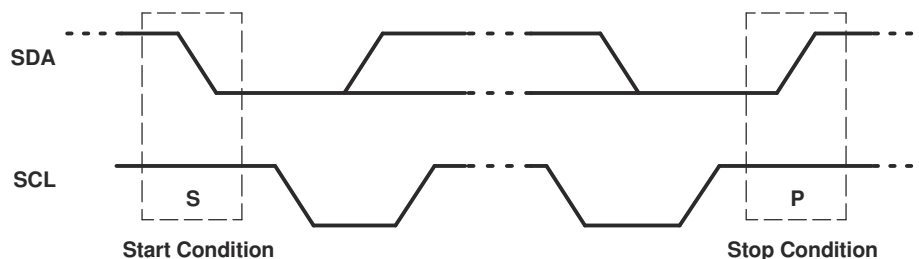

Figure 8-2. Definition of Start and Stop Conditions
Both data and clock lines remain high when the bus is not busy. A high-to-low transition of the data line while the clock is high is defined as the start condition (S). A low-to-high transition of the data line while the clock is high is defined as the stop condition (P) (see Figure 8-2).